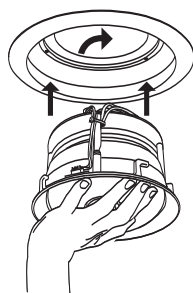

Figure 18
6. Holding the loudspeaker in the palm of your hand, insert the loudspeaker into the frame, twist clockwise to lock. (**See Figure 18**).